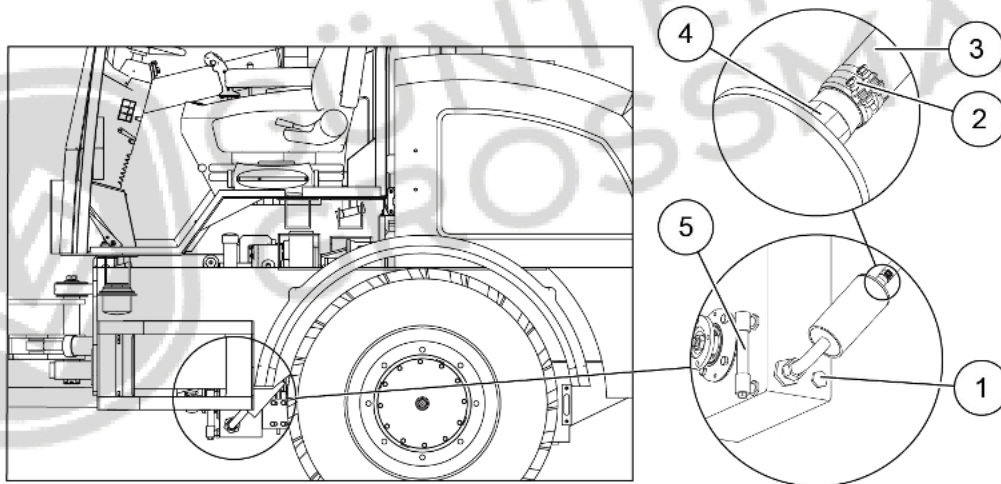

Figure 6-25 Transmission oil filter
Step 2: Unscrew transmission oil plug (1) and drain oil into container, tighten the plug (1) after completion;
Step 3: Loosen two bolts (2), remove and fix oil pipe (3), as shown in Figure 6-25;
(1) Transmission oil plug (2) Bolt (3) Oil pipe (4) Mounting frame (5) Oil level gauge
Step 4: Unscrew the mounting frame(4) with a wrench, replace with a new hydraulic oil filter element, and then tighten mounting frame (4);
Step 5: Install oil pipe (3) and tighten bolt (2);
Step 6: Remove the plate(6),and unscrew oil filler cap (7), add transmission oil through the oil filler port until the oil level gauge (5) reaches to middle position.Tighten oil filler cap (7), as shown in Figures 6-25 and 6-26;